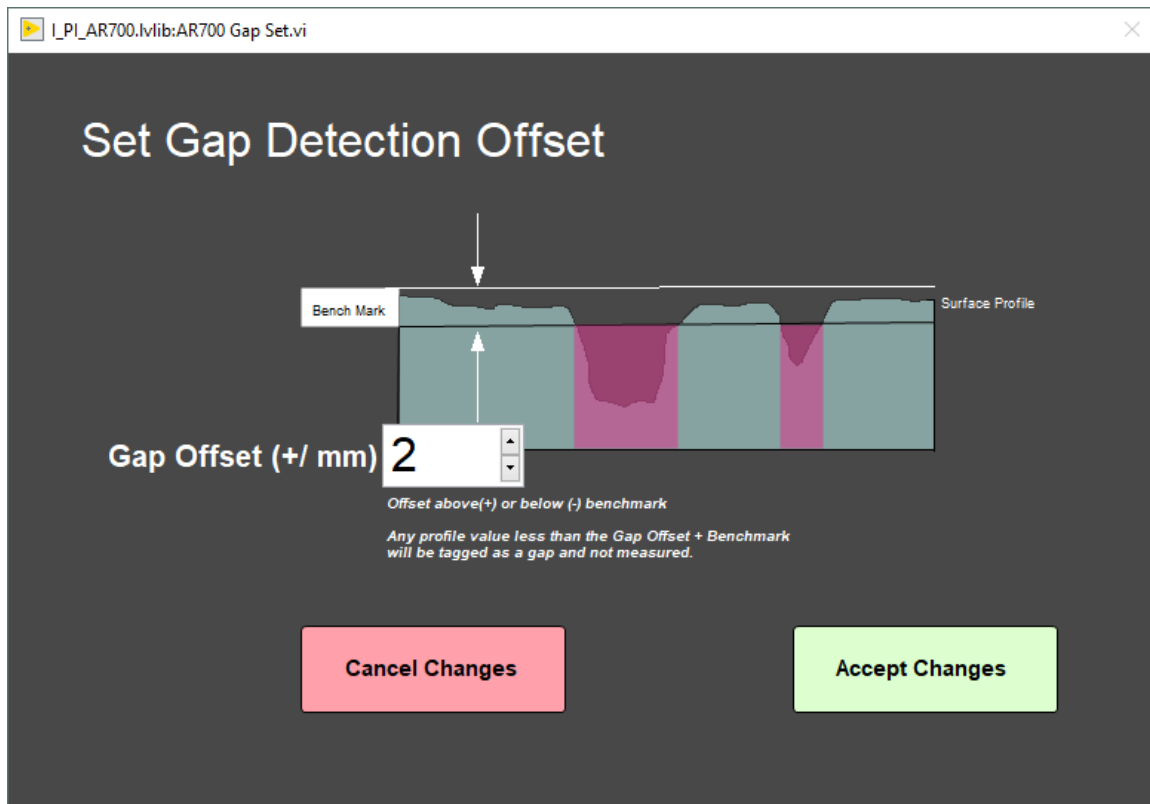

Figure 14. Laser Measurement Parameters
The user may use the Laser Measurement editor (**Figure 14**) to set the gap offset. This is the height below the benchmark which will be tagged by the system as a gap and will therefore not be measured. For piston cores, the recommended gap offset should be set to 10 mm or less. For hard rock cores, the gap offset should be set between 20 and 30 mm.
Note: (Gap detection parameters are configurable in the *DAQ> Measurement Editor Laser* window (Figure 14).
6. When the measurements are complete, the instruments will return to home and the sample information window will be displayed (Figure 14). The user may now prepare the next section and continue measurements.